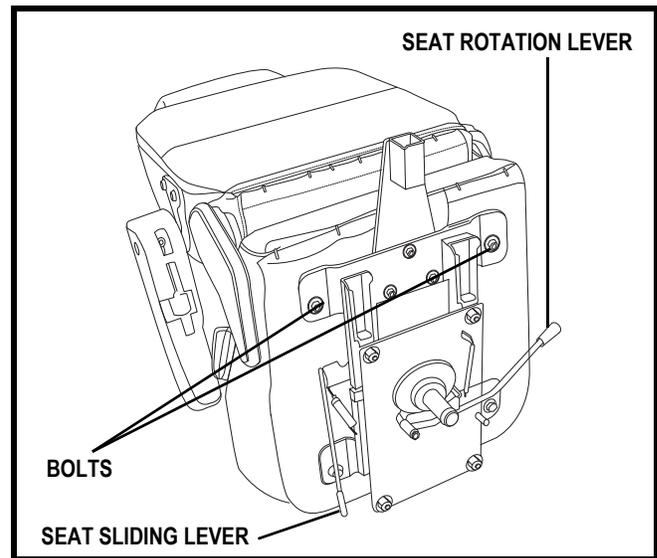

Figure 16A. Seat Adjustment Levers
1. Push forward on the seat rotation lever to disengage the seat. See figure 16A.
You can reposition the seat forward or backward to adjust the distance between the seat and the tiller. See figure 16A.
3. Remove the two bolts on the outermost part of the rear seat mounting strap. See figure 16A.